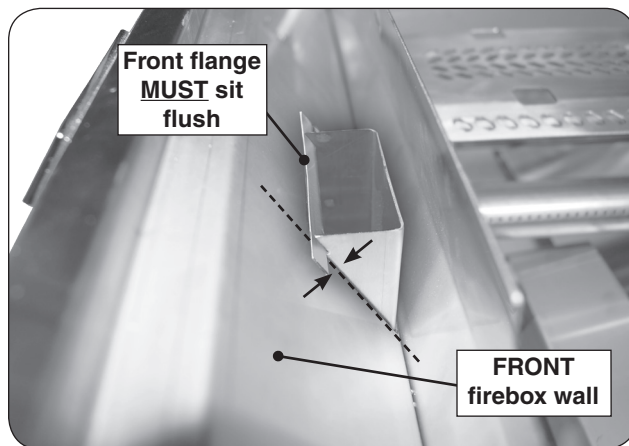

Fig. 33-3 Drip tray chute installed
3. To replace, drop the chute back into the top and bottom cutouts of the front firebox wall. The front flange MUST sit flush against the firebox wall. See Fig. 33-3.